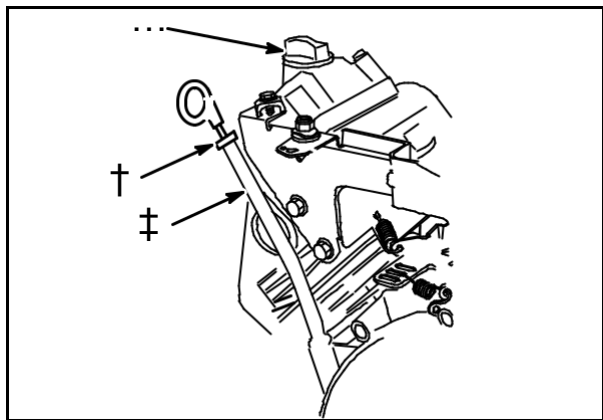

Fig. 18
For proper sealing on these models, the oil fill cap (5) has an O-ring, the dipstick has a grommet (6), **Fig. 18**.